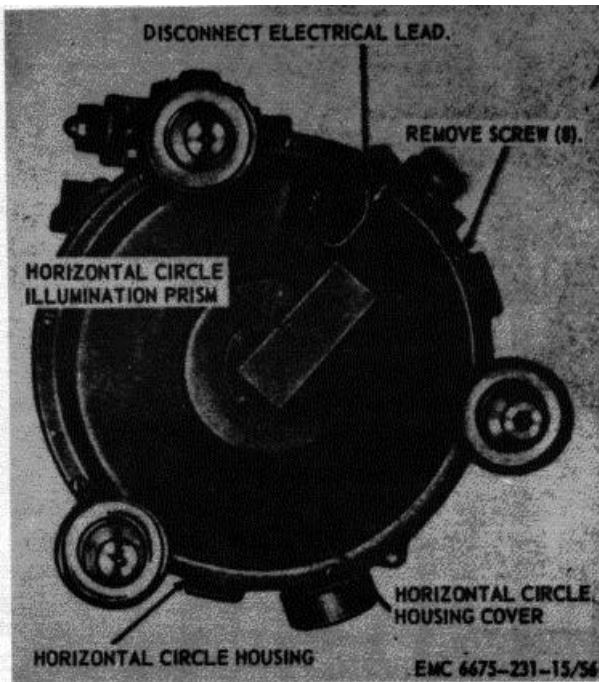

Figure 58. Horizontal circle housing cover and horizontal circle illumination prism, removal and installation.
- (1) Remove the leveling screws (par. 117).
- (2) Refer to figure 58 and remove the horizontal circle housing cover and horizontal circle illumination prism.
- (1) Refer to figure 58 and install the horizontal circle housing cover.
- (2) Install the leveling screws (par. 117).
(1) Disconnect the electrical lead (fig. 58).
(2) Connect the electrical lead (fig. 58).